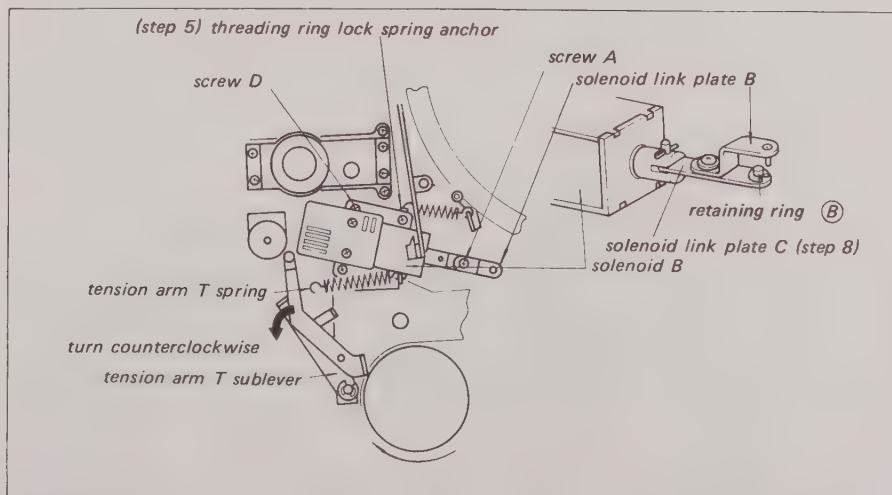

Fig. 5-39. Solenoid B removal
1. To remove the solenoid, unhook the spring to Tension Arm T and rotate the Tension Arm Support Plate counterclockwise as far as it will go. Refer to Fig. 5-39.
4. Remove screw A, PS 3x6, in Solenoid Link Plate B and the retaining ring (B).
5. Unhook the Threading Lock Spring at the anchor under one of the solenoid mounting screws. See Fig. 5-39.
8. Tighten the screws temporarily so that the plunger operates in line with Solenoid Link Plate C. See Fig. 5-39.
12. Adjust the position of Solenoid Link Plate B (Fig. 5-39) so that the clearance between the Brake Chassis Ass'y and the bottom of the Cassette Opener is the same as it is in the PLAY mode. Tighten the screw in Solenoid Link Plate B.